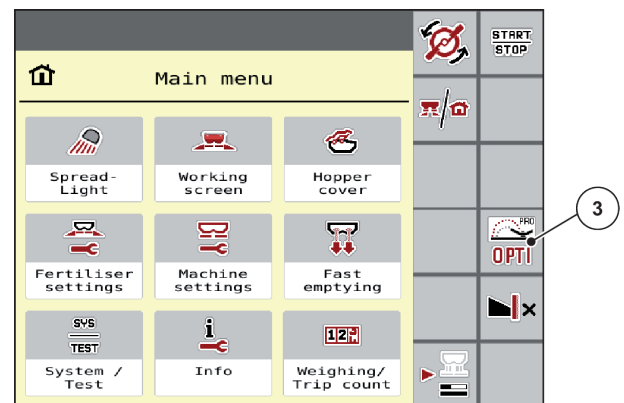

Fig. 15: OptiPoint activated in the main menu
- Press the “OPTI” function key to activate the headland mode. Or can be activated in the main menu, see Fig. 15 OptiPoint activated in the main menu.